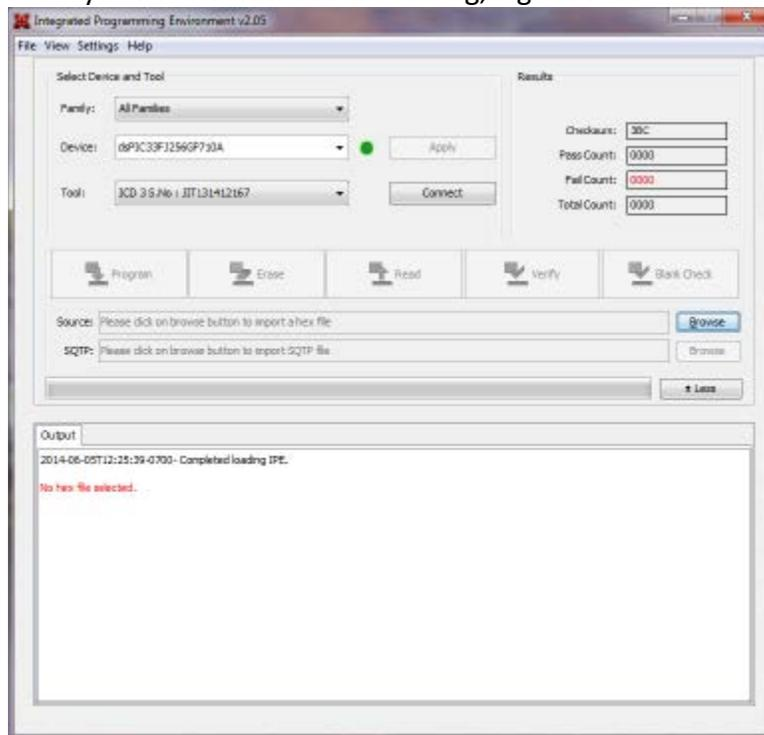

Figure 3: Software Screen
9. Select the device under the Device dropdown to: **dsPIC33FJ256GP710A**. If selecting for the first time otherwise verify the correct device is showing, Figure 3.